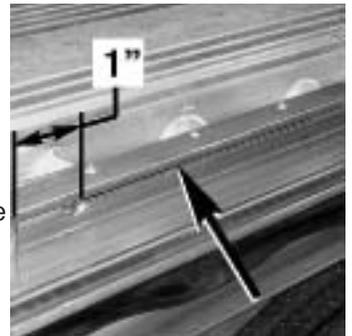

Figure 20
29) See Figure 20. Measure back 1" from the end of the last piece of rail and place the upper rail support (6) on the upper portion of the rail. Mark the hole locations on the rail with a felt pen using the holes in the support as a guide. Drill Holes in the Rail using a "G" drill bit. Rivet the upper rail support (6) in place.
30) Oil the rail insert (2). Push the rail insert from the back until it lines the last rail. (Tap the rail into place if needed.)